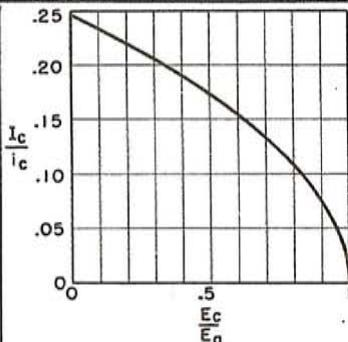

Figure 4. Curve from which ratio of $\frac{I_c}{i_c}$ is obtained.
first have to calculate $\frac{E_c}{e_g}$ the ratio of the grid bias to the peak rf driving voltage and then from Figure 4 get $\frac{I_c}{i_c}$ the ratio of average
$$I_c = i_c \times \left(\text{ratio } \frac{I_c}{i_c} \text{ from Figure 4, (amperes)} \right) \quad (5)$$
From Figure 4, $\frac{I_c}{i_c} = 0.175$